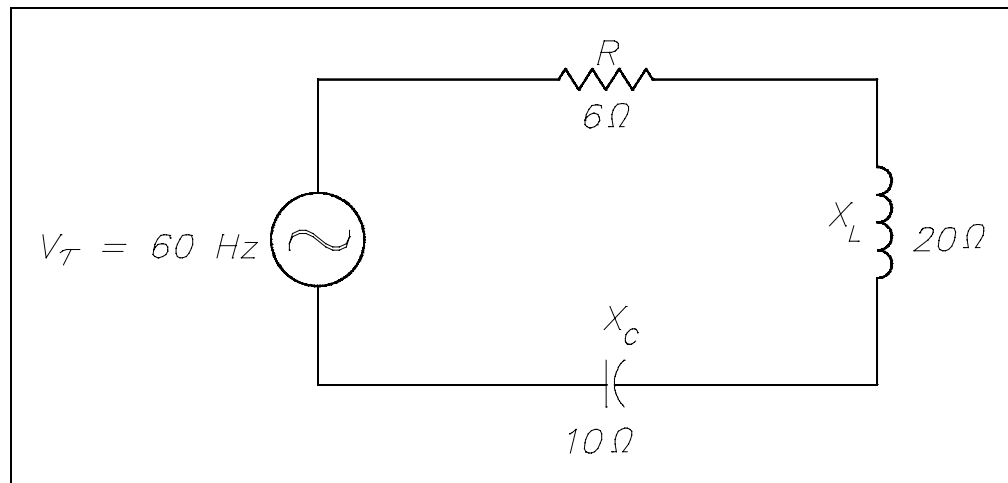

Figure 9 Simple R-C-L Circuit
**Example:** Find the impedance of a series R-C-L circuit, when  $R = 6 \, \Omega$ ,  $X_L = 20 \, \Omega$ , and  $X_C = 10 \, \Omega$  (Figure 9).
In a series R-C-L circuit, as in Figure 9, at resonance the net reactance of the circuit is zero, and the impedance is equal to the circuit resistance; therefore, the current output of a series resonant circuit is at a maximum value for that circuit and is determined by the value of the resistance. ( $Z=R$ )